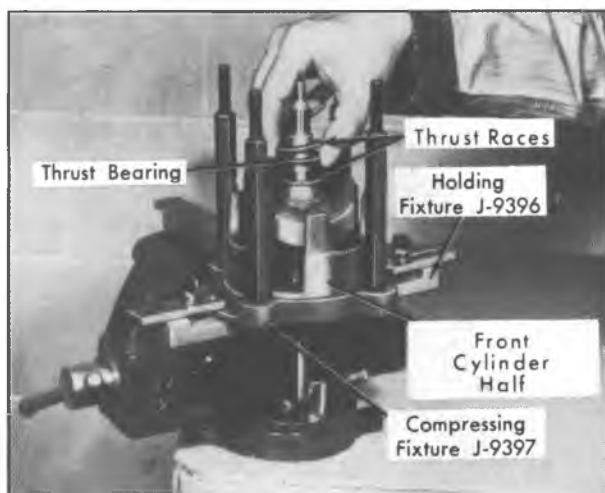

Fig. 36—Installing Rear Thrust Races and Bearings
5. Now install a ZERO thrust race on rear end of compressor shaft (Fig. 36), so that it rests on hub of axial plate. Then install thrust bearing and a second ZERO thrust race. Lubricate races and bearing with petrolatum.